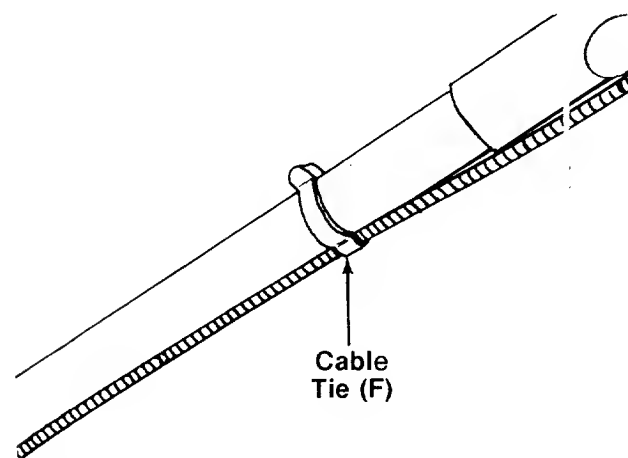

FIGURE 9.
15. Secure control cables to upper and lower handles with cable ties (F). See figure 9.